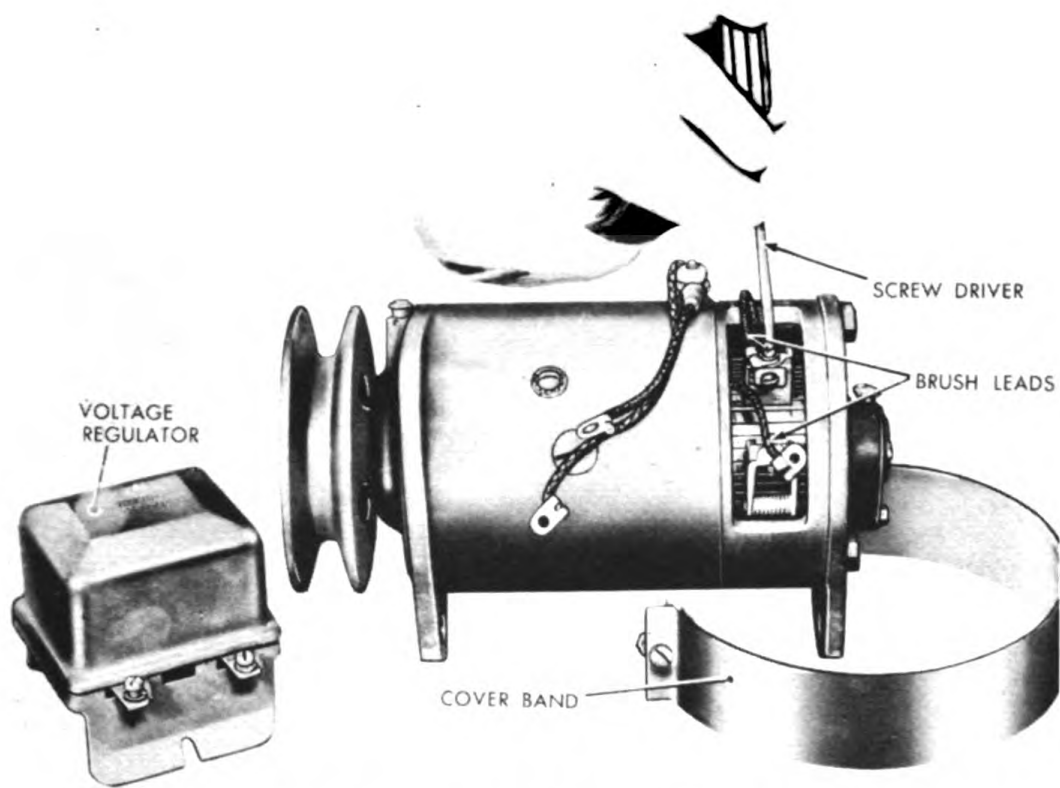

Figure 252. Disconnecting Brush and Field Leads.
- a. Disconnect the leads from "F" and "GEN" terminals of the step voltage control by removing the screws and lockwashers. Replace the screws and lockwashers temporarily to avoid misplacing them. Remove the two screws, lockwashers, and washers holding the step voltage control to frame and lift off the step voltage control. See figure 252. Remove the "A" and "F" terminals of the generator, the nuts, lockwashers, and the leads.
- b. Remove the cover band and note the relationship of the leads and brushes. Disconnect the screw and lockwasher from the insulated brush holder and one from the third brush holder. See figure 252. This disconnects the lead from "A" terminal stud and the lead from the field winding.
- e. Attach the insulated brush lead and the third brush leads to the insulated brush holder and the third brush holder, respectively. The clips go under the lockwashers. Drop the brushes down on the commutator in operating position. See figure 252.